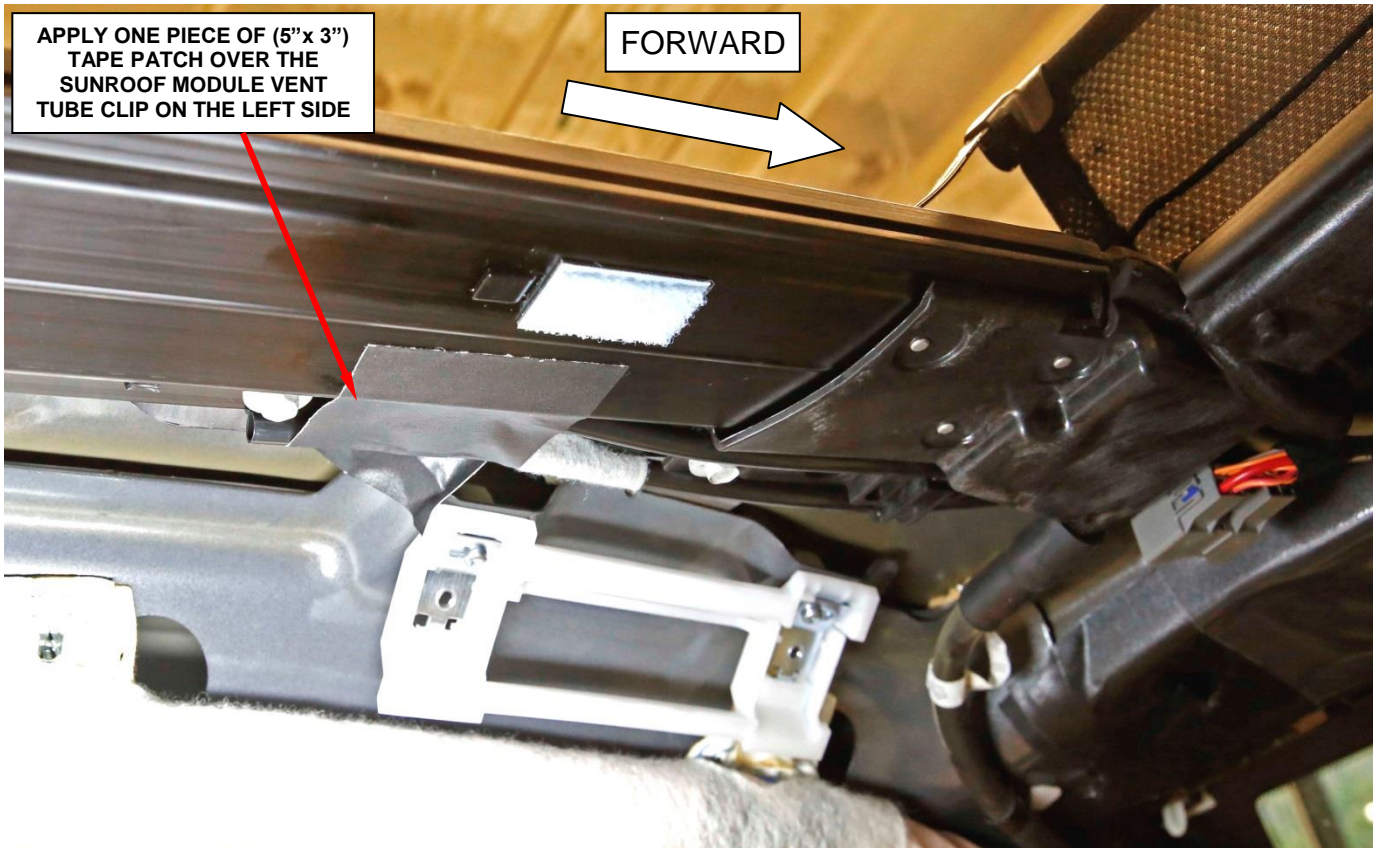

Figure 25 – Apply Tape Patch Over Sunroof Module Vent Tube Clip (Dual Pane Sunroof Left Side Only)
52. **For vehicles equipped with a Dual Pane Sunroof and did not have recall P36 performed,** apply one piece of (5" x 3") tape patch over the sunroof module vent tube clip on the left side of the vehicle (Figure 25 and 26).